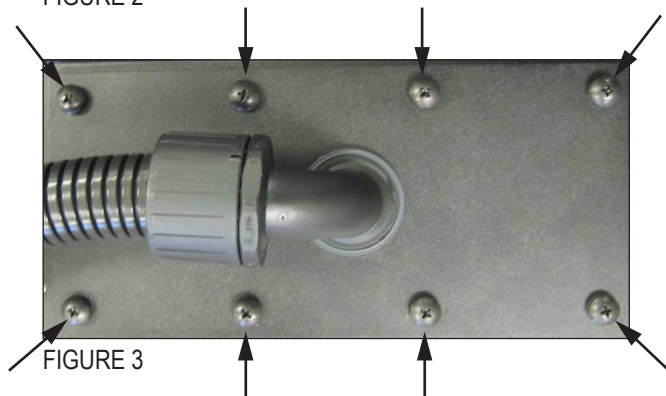

FIGURE 3
3. Refer to Figure 3. Install the provided eight sealing screws and tighten evenly until the gasket on the cover plate is 1.6 mm to 2.4 mm (1/16" to 3/32") thick.